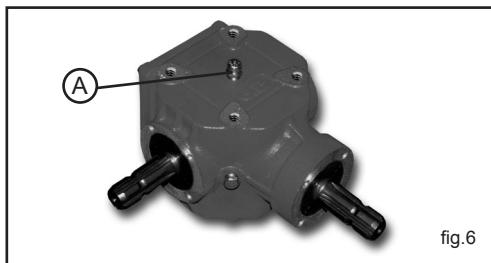

fig.6
4. Check the level of oil in the reduction casing (Fig.6 - Ref.A); this operation must be carried out before beginning to work.